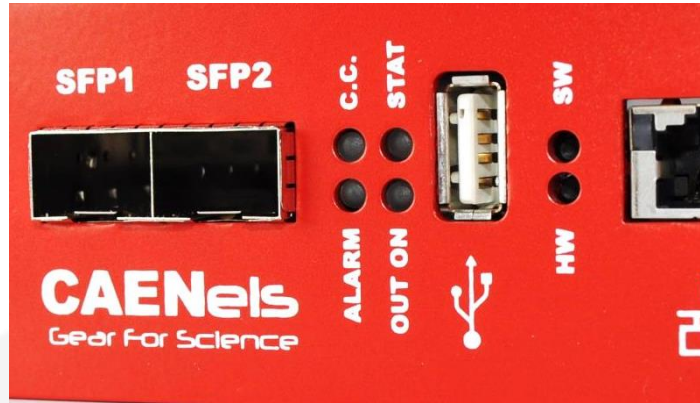

Figure 11: front panel indicators
The FAST-PS has four (4) front panel LED indicators as shown in the following **Figure 11**.